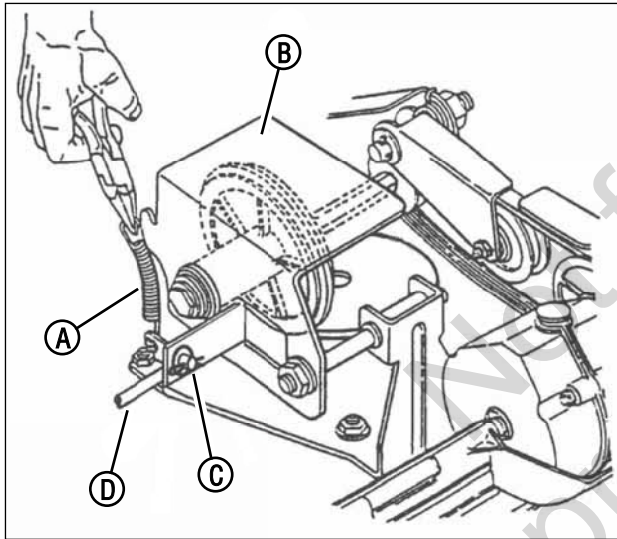

Figure 27: Adjusting the driven disc
2. Remove the driven disc spring (A, Figure 27) from the driven disc assembly (B). Also remove the pin and washer (C) from the transfer rod (D), and remove the end of the transfer rod from the hole in the driven disc assembly.
1. Remove the pin and washer (C, Figure 27) from the transfer rod (D), and remove the end of the transfer rod from the hole in the driven disc assembly.